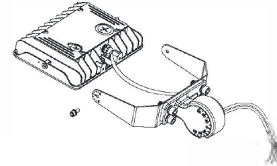

Fig. 4.2
2. Pass the input wire of the fixture through the bracket (Fig. 4.2).